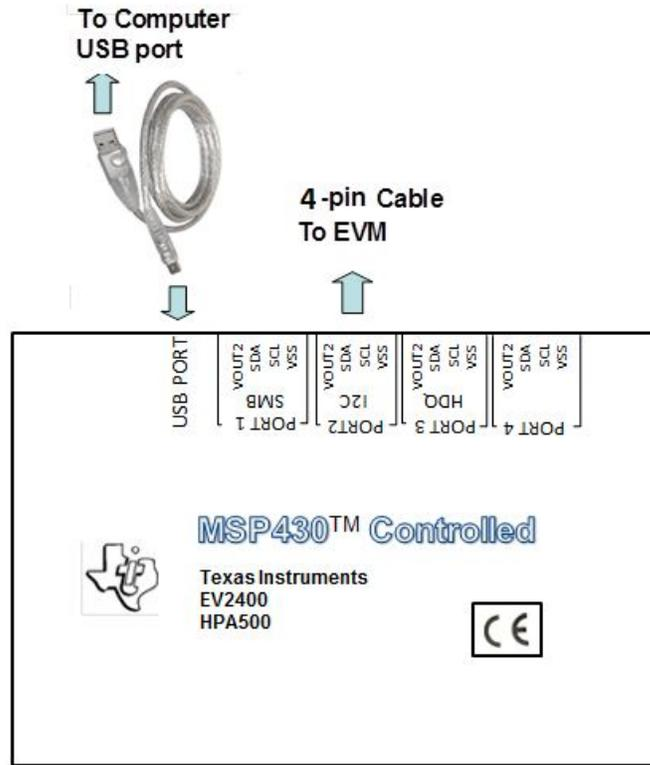

Figure 5. The Connection of EV2400 Interface Box
2.3.3 Open Software GUI and go to “Field View” page (as is shown in Figure 5)